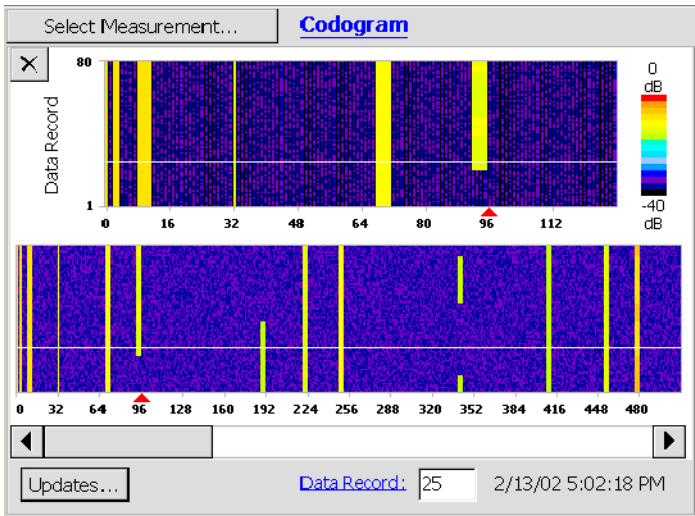

Figure 3-58: W-CDMA Codogram display
4. Tap **Codogram**. See Figure 3-58.